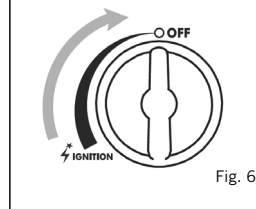

Fig. 6
- Turn the ignition knob to "OFF" to shut off fuel supply (Fig. 6). Wait until the flame is fully extinguished before performing the next step.